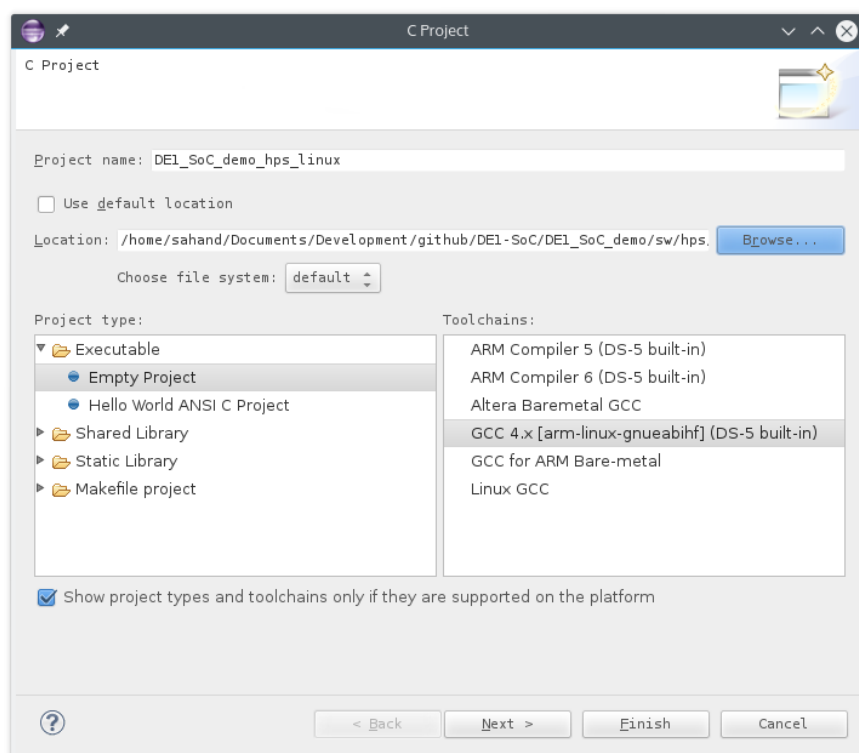

Figure 13-11. New C Project Dialog
- f. You should have something similar to Figure 13-11. Then, press the “Finish” button to create the project.